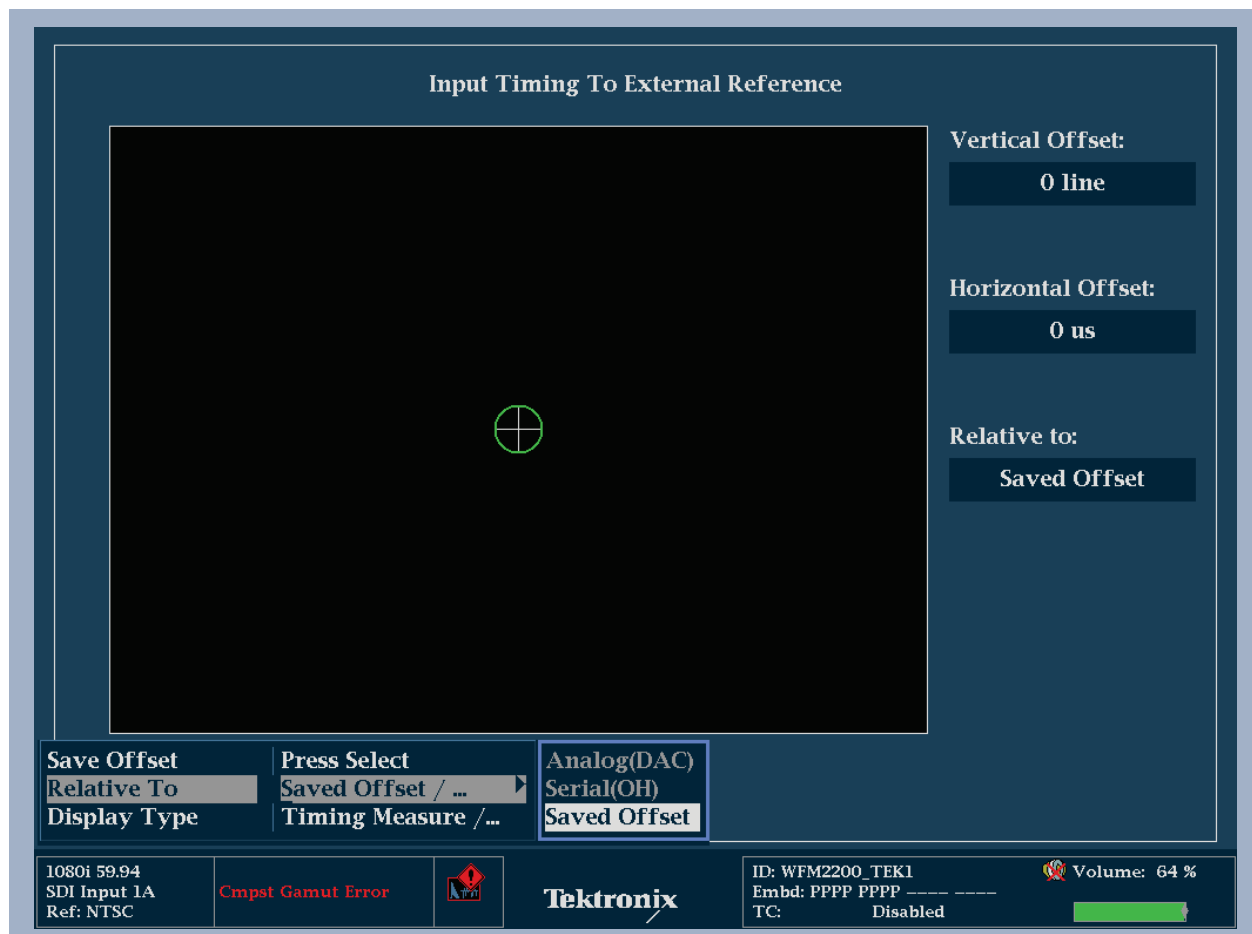

Figure 5. Timing Display showing “Relative To:” menu selection.
1. Push and hold the **MEAS** button to display the menu as shown in Figure 5.
5. Press **SEL** to enter sub menu and select **Saved Offset** as shown in Figure 5.